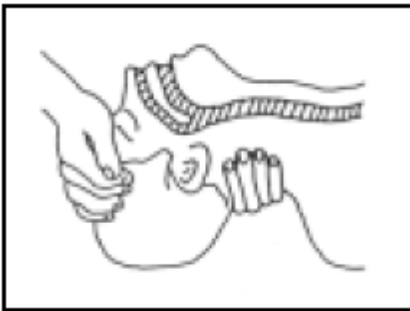

Figure 1: Resuscitation detail – 1.
- Open the respiratory airways lifting up the neck and pushing down the front (Fig. 1).